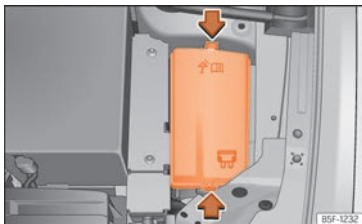

Fig. 57 In the engine compartment: fuse box cover.
- Press the locking tabs to release the fuse box cover »» **Fig. 57**.